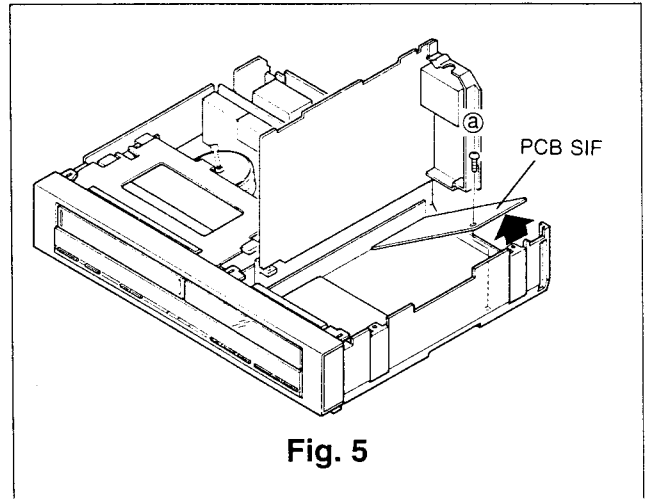

Fig. 5
3. Removal of PCB SIF [HS-M34(EE) only]
- b. Remove screw ① retaining the PCB SIF, as shown in Fig. 5.